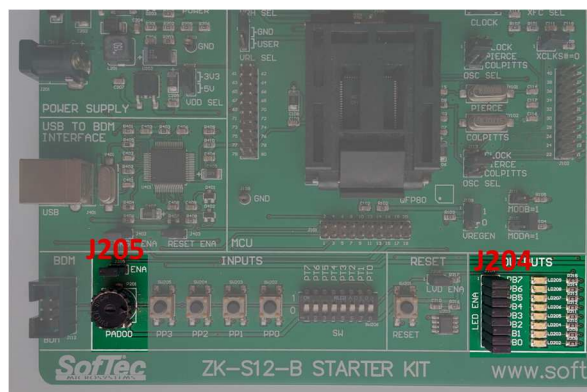

Figure 1.6 Locations of J204 and J205
- Make sure the J204 “LED ENA” jumpers from the output section of the board are installed (Figure 1.6) – 8 jumpers.
- Make sure the J205 “POTENTIOMETER ENABLE” jumper from the input section of the board is installed (Figure 1.6).